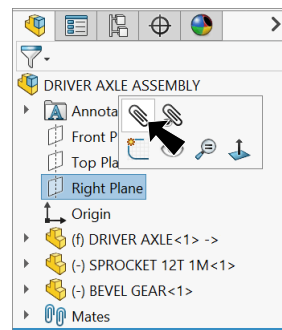

Fig. 9
Step 1. Click **Right Plane**  in the Feature Manager and Mate  on the context toolbar, **Fig. 9**.